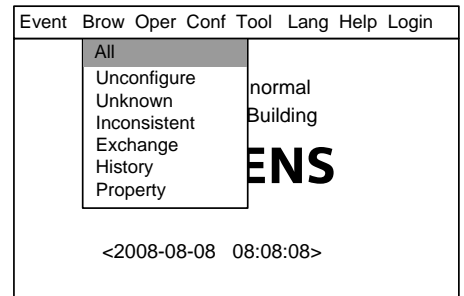
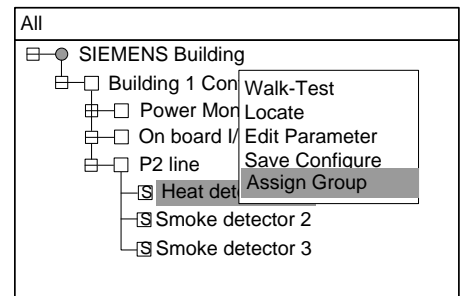
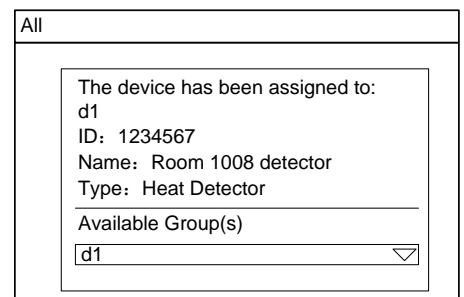

Fig.26-2
Fig.26-3
Fig.26-4
2. Press "→" to select "Brow" submenu (Fig. 26-2). Select "All" and then press "OK". Now the tree diagram will be displayed in the window (Fig.26-3). Press "↓"/"↑" to find out the equipment to be assigned to group.
3. Press "→" to pop out a shortcut menu (Fig.26-3). Use "↓" to select "Assign Group" or "Assign FRT" and press "OK" to enter the grouping interface (Fig.26-4).